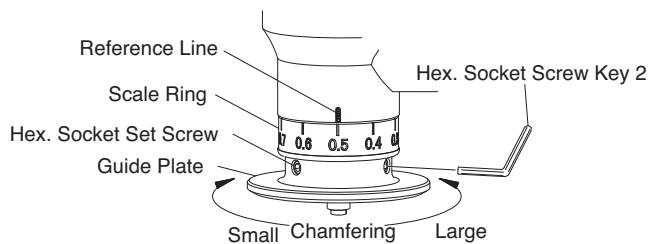

Fig.6
- (1) Loosen two Hex. Socket Set Screws on the Guide Plate with the accessory Hex. Socket Screw Key 2.
- (2) Rotate the Guide Plate to align the Reference Line with a decimal for a desired chamfering amount. (Fig.6)